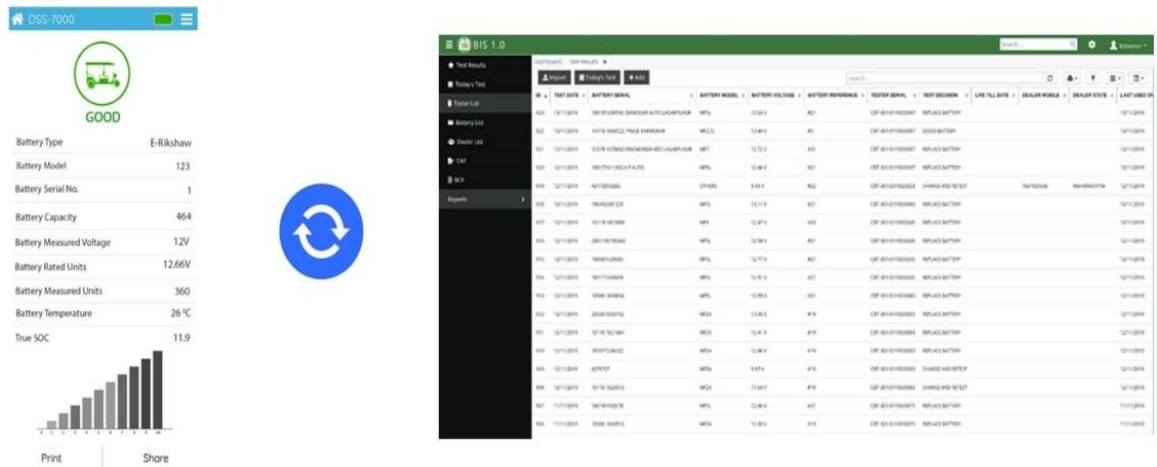

Fig 1.3
- Data of the test can be seen in the test page of the BIS system as shown in the figure(fig 1.3).